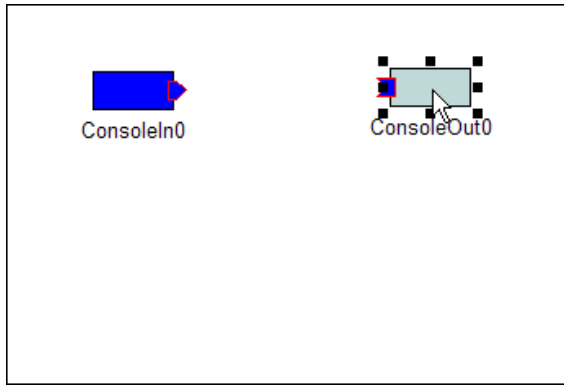

Fig. 4.4: Selecting a component
**Selecting components** A component can be selected with a left click on it(Figure 4.4).